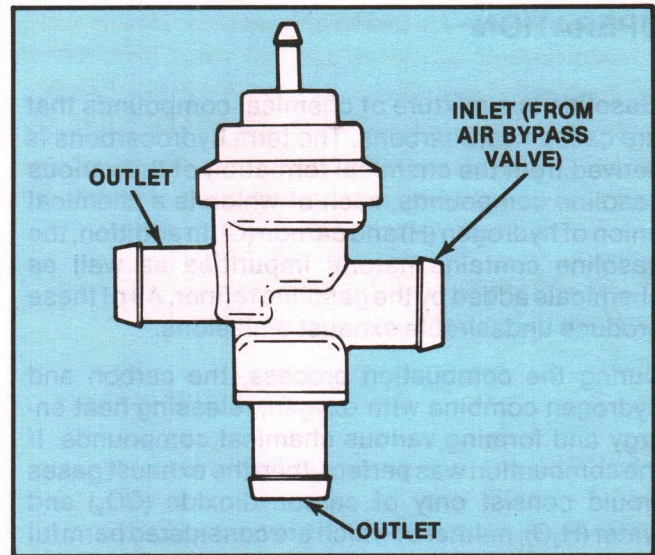

Figure 74. Typical Thermactor Air Control Valve
- **Air Control Valve (Fig. 74)**—Used to route secondary air either upstream (to exhaust manifold or cylinder heads) or downstream (to catalytic converter).